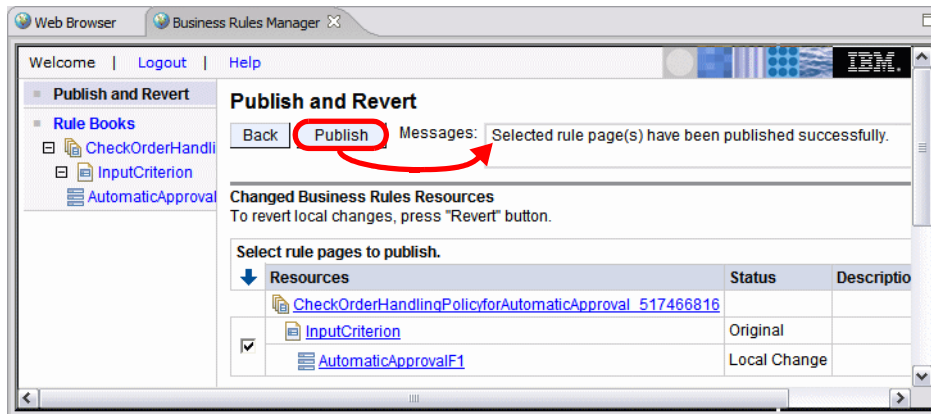

Figure 10-89 Publishing a business rule
- ▶ Select *Publish and Revert* on the left hand side and click *Publish* (Figure 10-89).